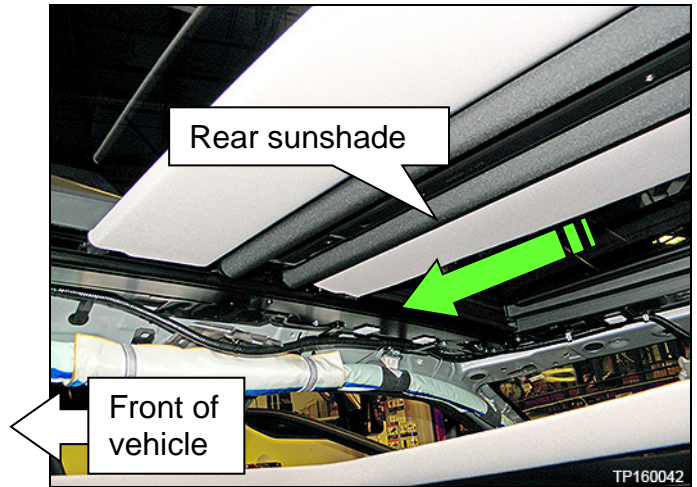

Figure 58
- a. Detach the rear sunshade by pulling it toward the right of the vehicle to compress tension spring (Figure 58).